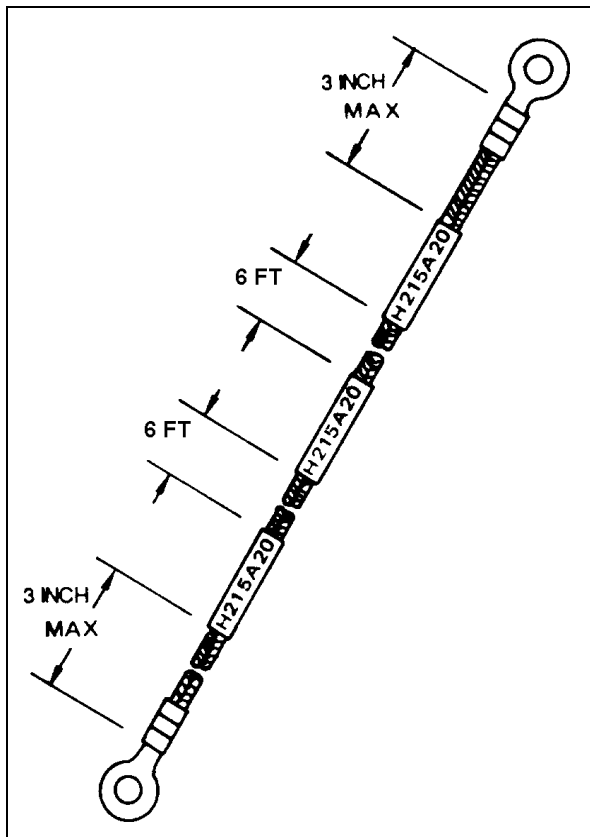

FIGURE 11-24. Spacing of printed identification marks (indirect marking).
**b. Indirect marking** is accomplished by printing a heat-shrinkable sleeve and installing the printed sleeve on the wire or cables outer covering. Indirect-marked wire or cable should be identified with printed sleeves at each end and at intervals not longer than 6 feet. The individual wires inside a cable should be identified within 3 inches of their termination. (See figure 11-24.)